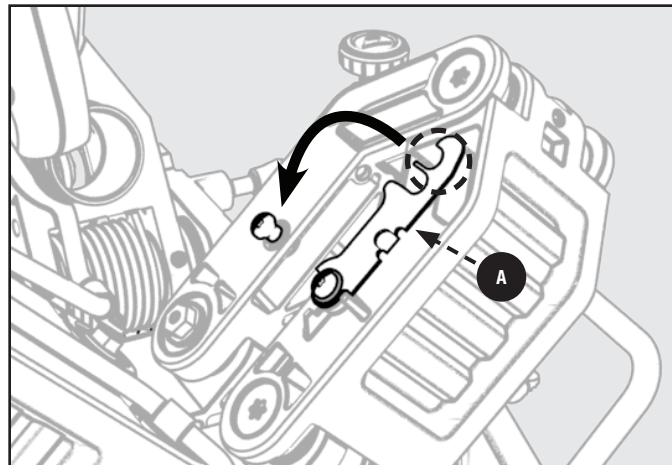

Figure 30
See Figure 30 and 31.
1. To use this saw as a traditional, non-sliding, miter saw: slide the saw head into the fully retracted position and engage the slide lock (A), baseboard notch. See Figure 30.
2. Loosen the miter lock knob (C), use your thumb to push in the miter detent lock button (B), and set the miter arm angle to 0°. Use the miter scale (E) and indicator (F) to locate the 0° miter position.
3. Release the miter detent lock button (B) and tighten the miter lock knob (C). Check that saw head is securely locked into position.